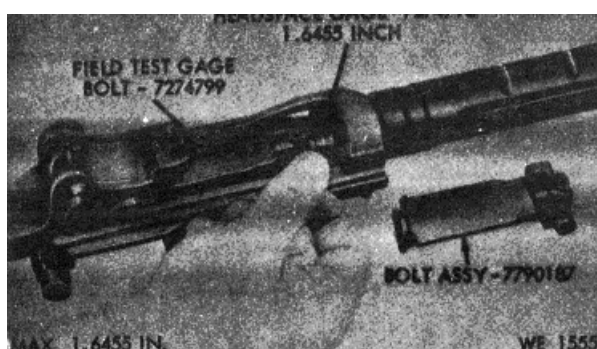

Figure 7-3. Gaging headspace.
- h. Check bolt in receiver in conjunction with headspace gage (fig 7-3). Insert gage into chamber. Position it so cartridge ejector enters the clearance cut on base of gage.
- (1) Remove the bolt assembly.
- (2) Insert field test gage bolt (fig 7-3) into receiver.
- (3) Insert headspace gage into face of field test bolt.
- (4) Move the bolt forward. If the field test gage bolt does not close, the bolt is unserviceable. If the field test gage bolt does close on the headspace gage, the rifle is unserviceable.
- (1) Remove operating rod assembly.
- (2) Clean barrel chamber, bolt and receiver.
- (3) Insert headspace gage (fig 7-3) into chamber. Position it so cartridge ejector enters the clearance cut on the base of the headspace gage.
- (4) Move bolt forward. If the bolt does close, test rifle with field test bolt as below: